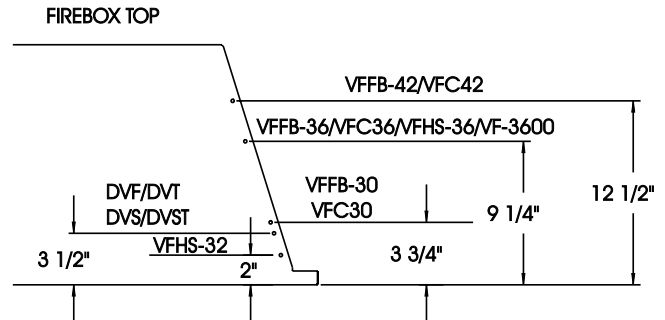

Figure 1
7. Align and place rear set of clearance holes on fan mounting bracket onto two (2) weld studs for direct vent 36/42 models or front set of clearance holes on fan mounting bracket onto two (2) weld studs for other models.
8. Use two (2) wing nuts to attach blower to weld studs.
**Second Method,** Remove top louvers by grasping an individual louver at each end and pivoting louver out of frame. Remove three (3) additional louvers in this same manner.
10. Located in the right, front are two (2) weld studs which protrude upward into the bottom of fireplace for attachment of speed control.
11. Insert speed control into interior, bottom of fireplace. Align and place two (2) clearance holes on speed control onto two (2) weld studs.
12. Use two (2) wing nuts to attach speed control to weld studs.
13. Refer to Figure 1 for mounting hole location on right side of firebox top that applies to your appliance. Measure from front edge of firebox top to determine mounting hole location. Remove appropriate screw from firebox top.